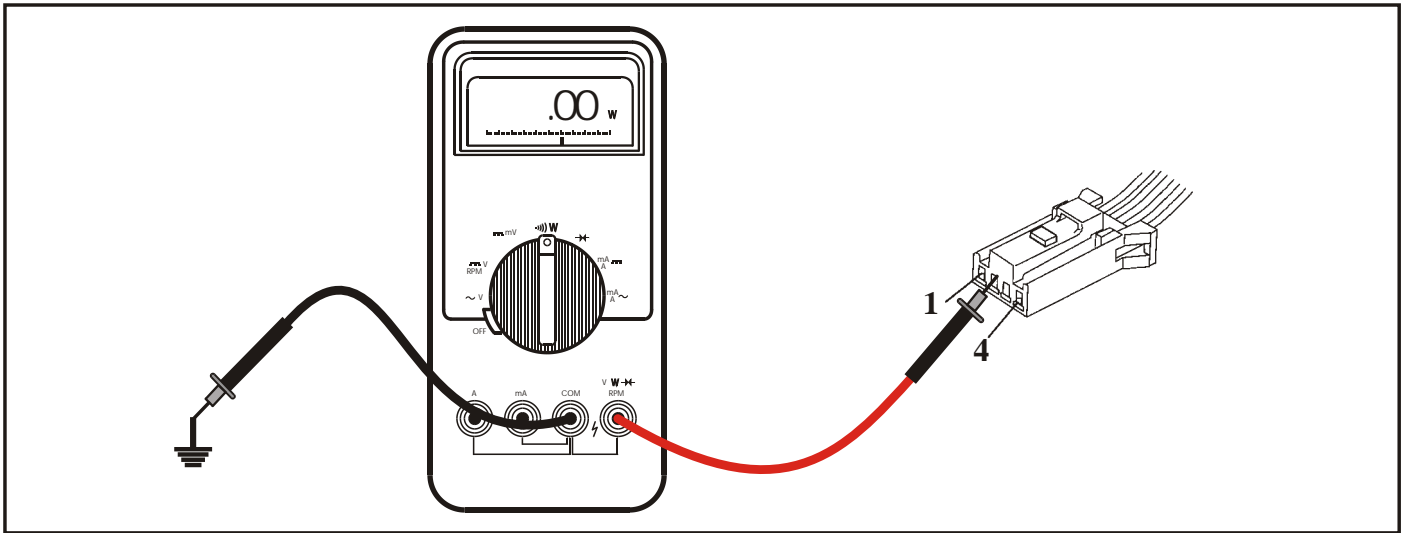

Figure 4
- (2) If voltage is seen, turn the ignition off and change the meter to read ohms. Keep the negative lead to ground and place the positive lead into terminal 2 of the Autostick connector (See Figure 4). If continuity is not seen, the ground wire is severed or corroded. Repair or replace the wire.